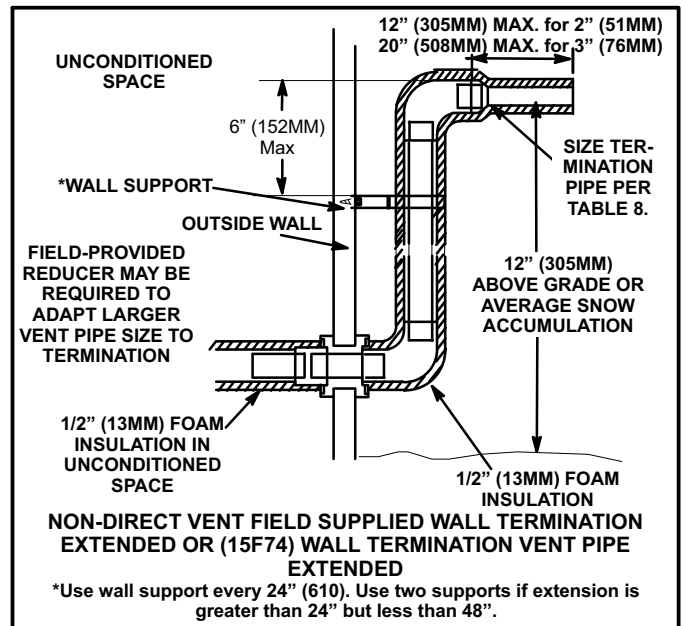

FIGURE 49
- 3 - If exhaust piping must be run up a side wall to position above snow accumulation or other obstructions, piping must be supported every 24 inches (610MM) as shown in figure 49. When exhaust piping must be run up an outside wall, any reduction in exhaust pipe size must be done after the final elbow.